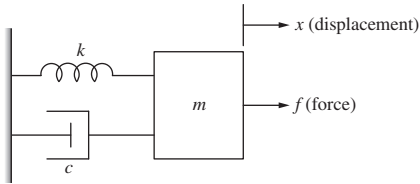

Figure P2.30 Mass, spring, and damper system for problem P2-30.
- 2-30.** The characteristic equation of a mass, spring, and damper system shown in Fig. P2.30 is given by